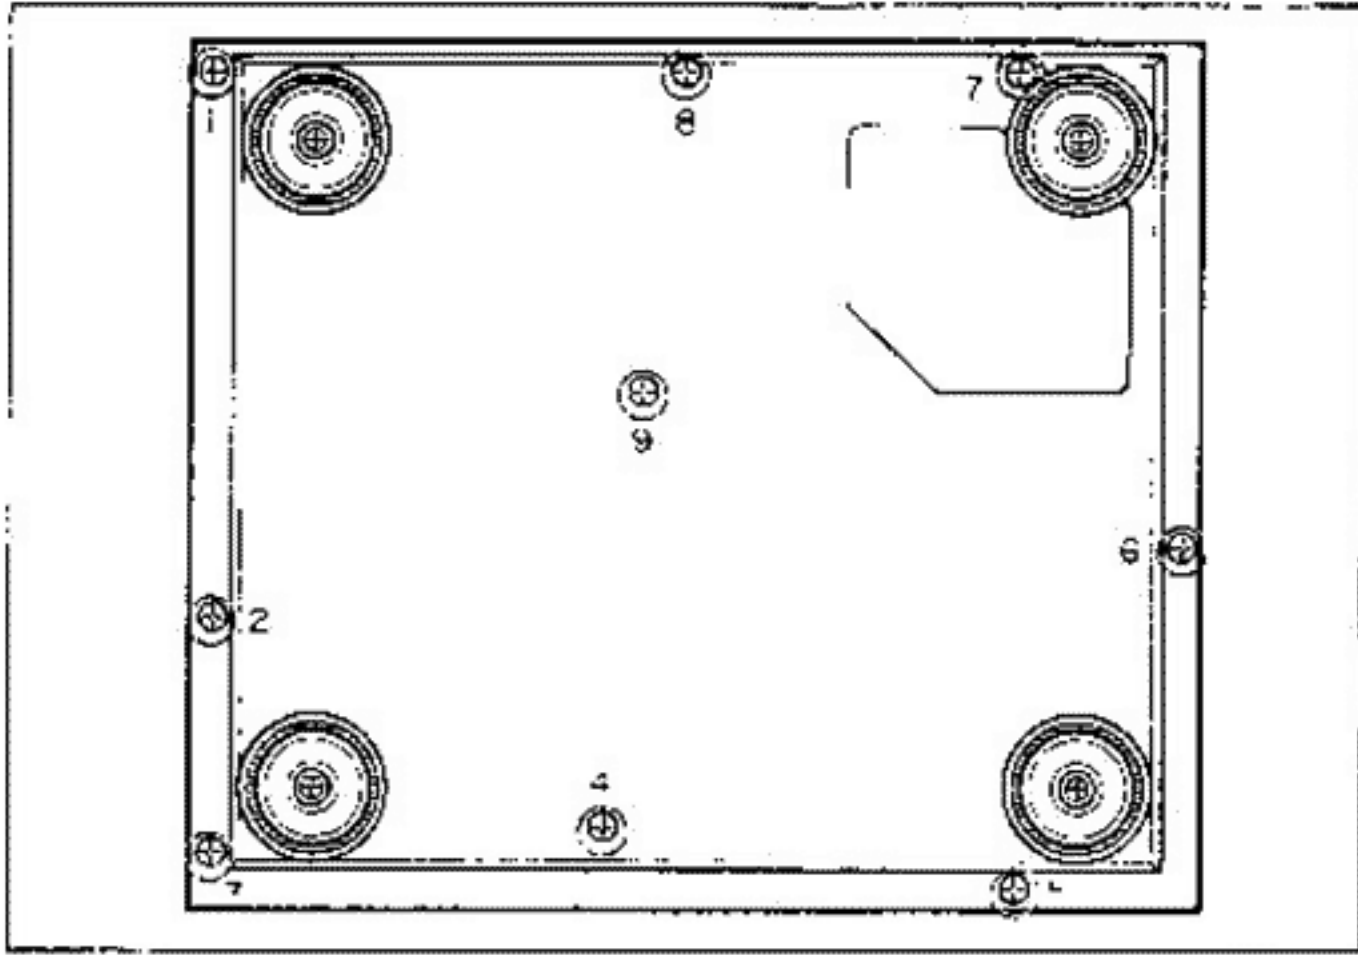

Fig. 1
Remove screws ① ~ ⑨ in Fig. 1 and then remove the bottom cover.
① ~ ⑨: Bind Head P-Tyte Screw 3 x 12Y